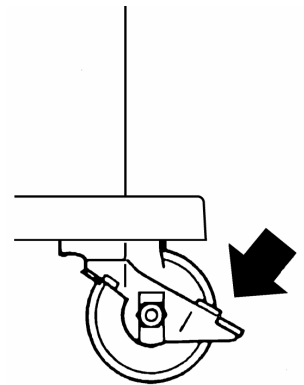

Fig.2-4
2. Move the machine next to the car, and lock the caster brakes. (See Fig. 2-4.)